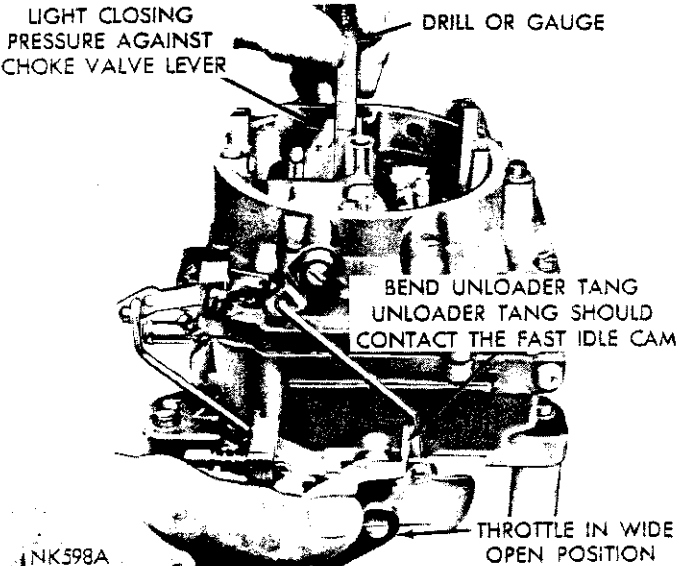

Fig. 16—Checking Choke Unloader (wide open kick)
(1) Hold throttle valves in wide open position. Insert specified drill (refer to Specifications), between upper edge of choke valve and inner wall of air horn (Fig. 16).
(2) With a finger lightly pressing against choke valve lever, a slight drag should be felt as drill is being withdrawn. If an adjustment is necessary, bend unloader tang on throttle shaft lever, using Tool T-
109-41, until correct opening has been obtained (Fig. 16).